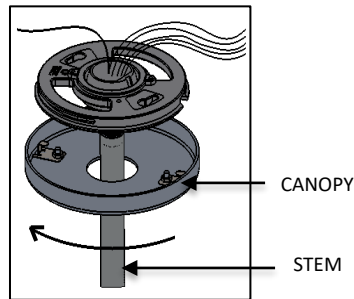

FIG. 16 – CANOPY DISASSEMBLY
- Loosen CANOPY and slide down STEM by rotating the CANOPY 90 degrees counterclockwise as shown in FIG.16. Be careful not to damage the finish of the fixture.